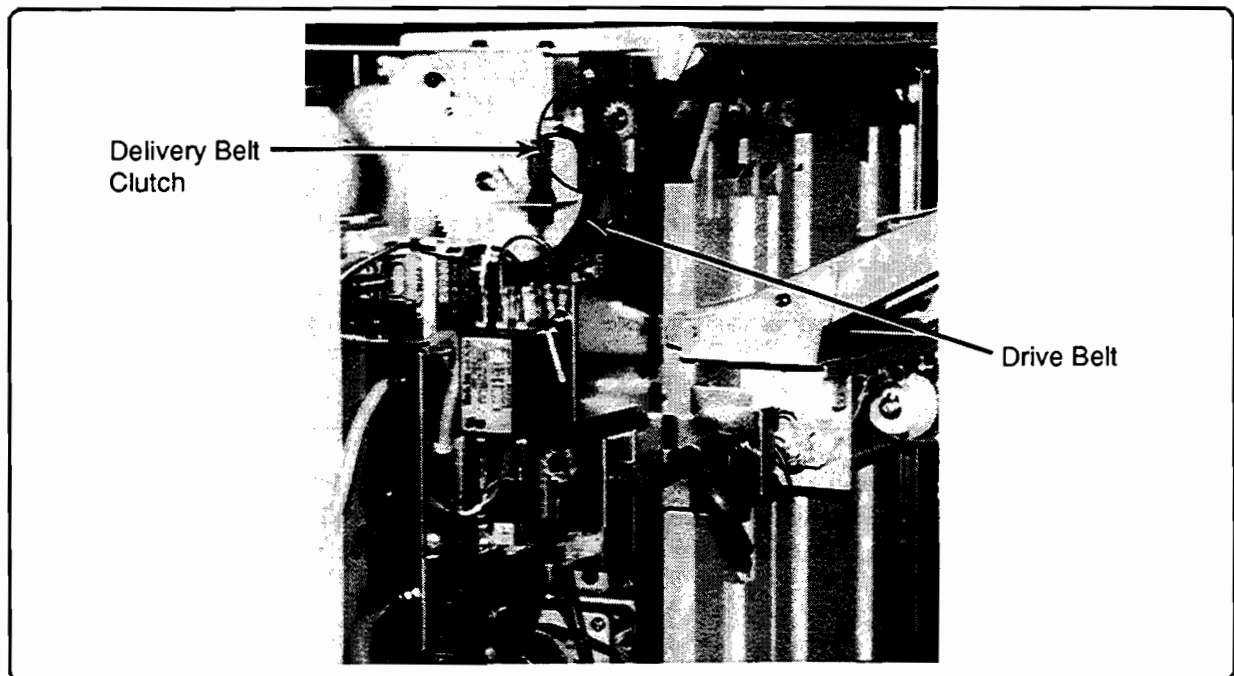

Figure 4-27. Stacker Drive Belt and Delivery Belt Clutch
4. Open the right door, above the Formatter Area, and clean the large plastic rollers with alcohol. Clean the clear rubber rollers with Rubber Roller Restorer. These rollers can be rotated by pulling on the drive belt at the rear of the stacker (Figure 4-27). Replace, if necessary.
10. Inspect the delivery belt clutch (400-K interval only), Figure 4-27. Remove and inspect for rotational binding. If binding, replace the clutch (P/N RH7-5007-000CN).